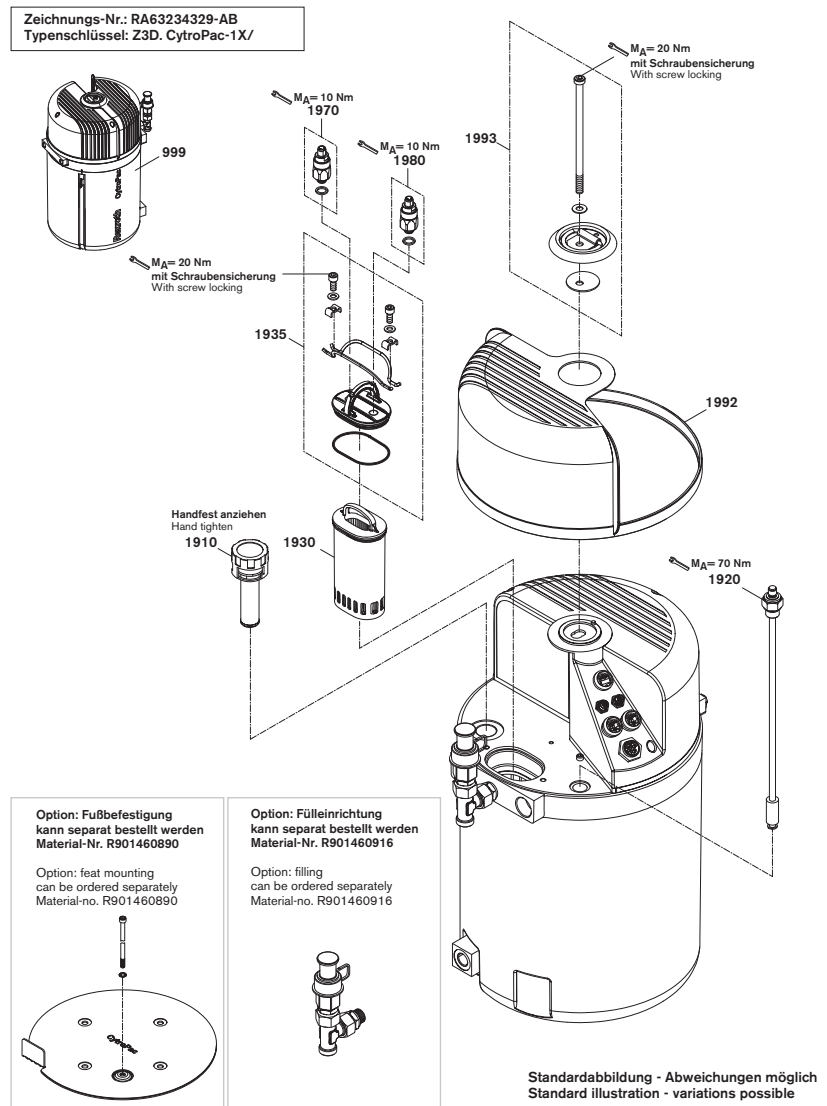

Fig. 24: Spare parts
► For a list of spare and wear parts for the hydraulic power unit, refer to fig. 24 and table 10: